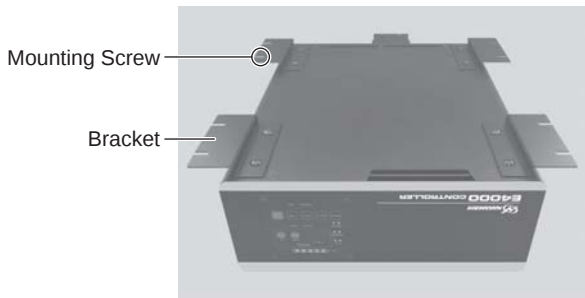
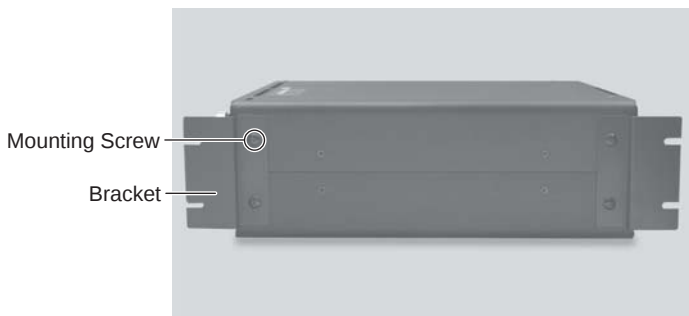

Fig. 10
Fig. 12
- The Bracket can be installed on the " (1) Bottom Mounting (Fig. 10, 11) " and " (2) Side Surface Mounting (Fig. 12, 13) " of the CONTROLLER.
- ② Install the Brackets (4pcs.) to the bottom of CONTROLLER by using removed Mounting Screws (8pcs.) (Fig. 10).
- ② Install the Brackets (2pcs.) to the side of CONTROLLER by using removed Mounting Screws (4pcs.) (Fig. 12).